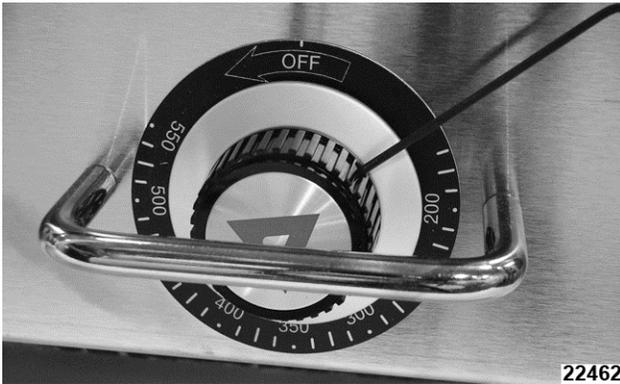
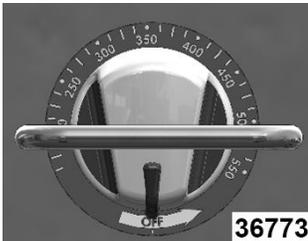

Fig. 4
Fig. 5
1. Turn all thermostats to off position. If Fig 4 knob present, loosen set screw and pull knob out until it contacts knob guard. If Fig. 5 knob is present, carefully pull knob off.
3. Pull front panel back and lay aside. If Fig. 4 knob present, carefully pull the front panel back 1/4" and remove knobs. If servicing a 900RX, lay front panel face down in front of unit.